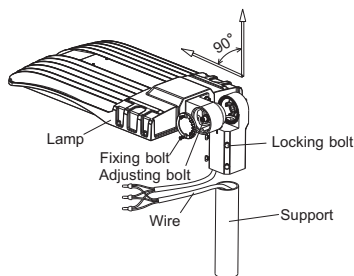

figure 1
1. Loosen the 4 locking bolts on the slip fitter, connect the wire correctly and put the wire into pole. Then fasten the locking bolts between slip fitter and the pole. (figure 1)
2. Loosen the fixing bolts and adjusting bolts, align the fixture to required angle. Tighten adjusting bolt and fixing bolts after the angle is confirmed. ( figure 1)